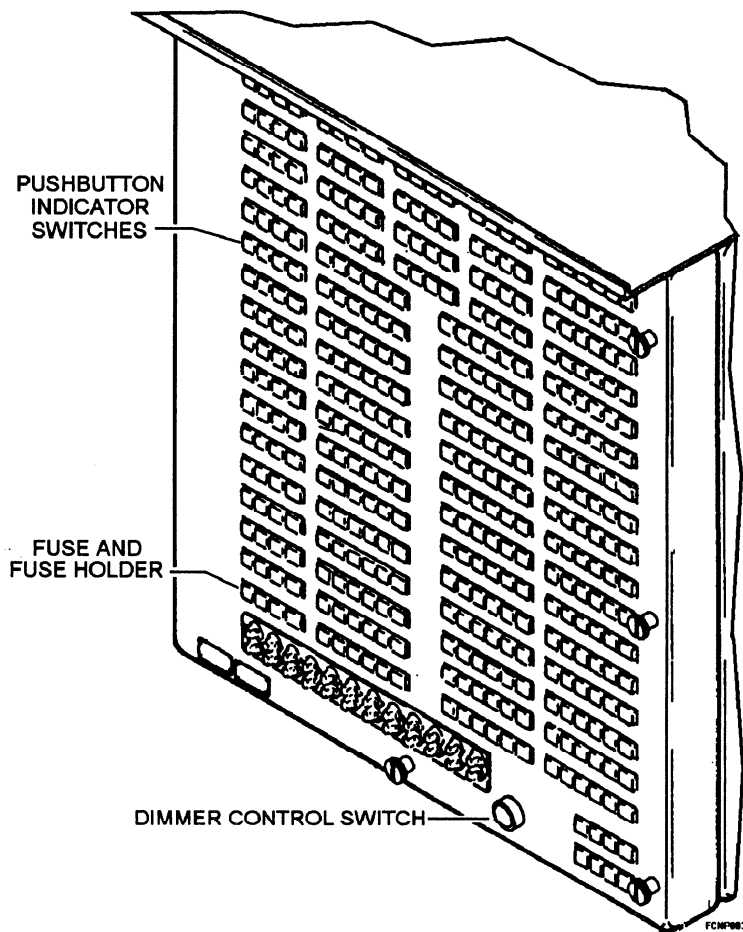

Figure 1-9.—Computer switching and control panel used on a CDS/NTDS system.
**EXTERNAL CONTROLS.** —Some computers use external controls to configure and set up the computer to enable it to communicate with peripherals and other systems. These controls work in conjunction with the software. Unless these controls are configured and set up properly, the computer cannot perform its functions correctly. The controls maybe set through digital switchboards or computer switching and control panels. Figure 1-9 is an illustration of a computer switching and control panel used on a CDS/NTDS system. Notice the push-button indicator switches available. You can use these to control the configuration and data routing.